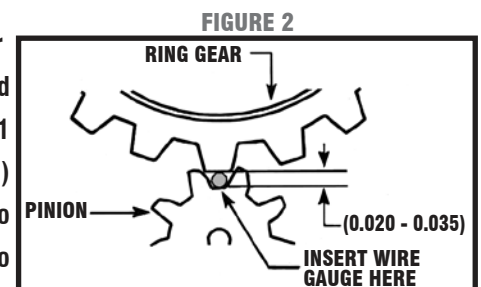

FIGURE 2
- Insert a wire gauge to check for proper clearance between the ring gear and starter pinion (see Figure 2). There should be a 0.020" to 0.035" clearance measured from the Root of the starter pinion to the tip of the ring gear tooth. (NOTE: A #1 standard paper clip is usually about 0.035" in diameter and makes an easy tool.) Check clear-ance at least three places on the ring gear. If the clearance is too small, add one shim at a time between the starter and engine block to bring it into specifications. In many installations, no shims are necessary.